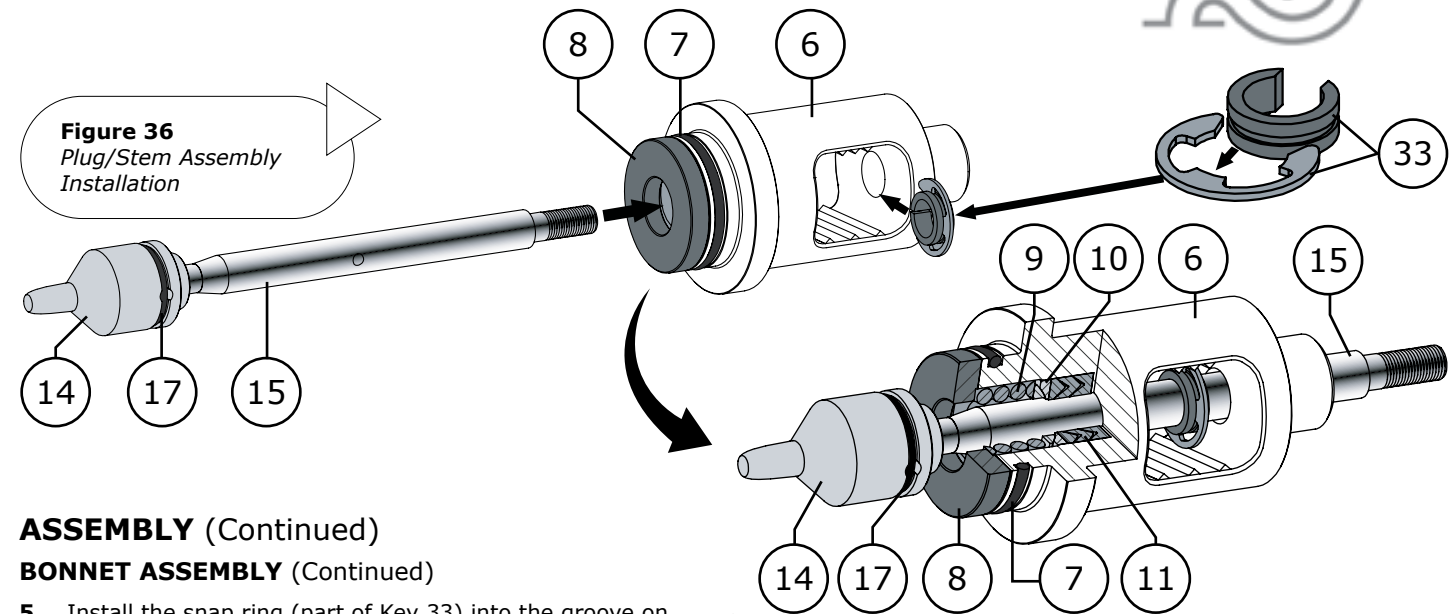

Figure 36 Plug/Stem Assembly Installation
- 5 Install the snap ring (part of Key 33) into the groove on the plastic bushing (part of Key 33), refer to Figure 36. Prepare the travel indicator (Key 33) so that when the stem (Key 15) is inserted through the bonnet (Key 6) the travel indicator gets installed on the stem in the bonnet window as shown above.
- 6 Carefully insert the plug/stem assembly (Keys 14 & 15) through the bonnet assembly as shown in Figure 36. Avoid scratching or damaging the valve stem (Key 15) during assembly.